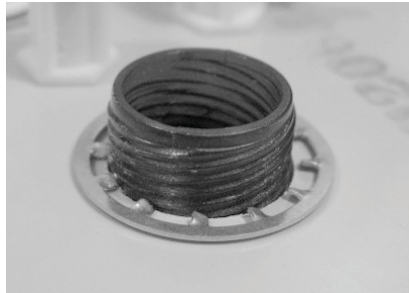

Figure 31 - Install the Lens Lock Washer on the Lens
b. Install the Lens Lock Washer on the Lens on the back side of the Enclosure's Front Panel as shown in Figure 31.